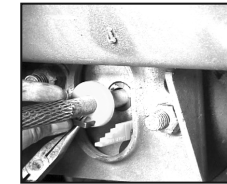

Fig. 6
Step 9. Without disturbing the position of the indicator, secure the BrakeSentry indicator to the push rod by inserting needle-nose pliers into the two holes provided at either side of the split parting. Squeeze together and insert the retaining clip through the slits (**Fig. 6**) With clip fully inserted, bend the tabs toward each other and into the recessed area of the indicator. (**Fig. 7**)